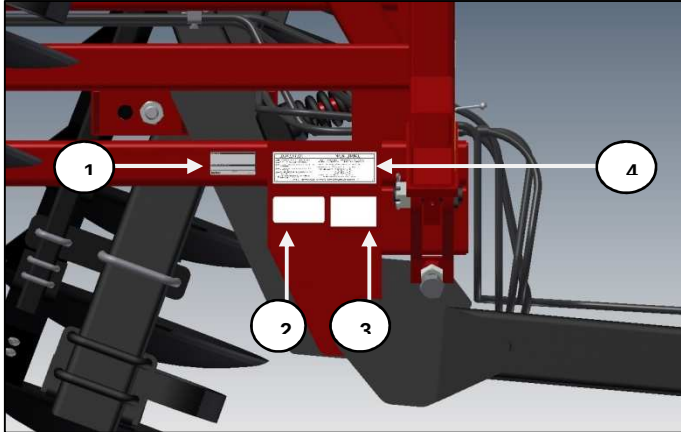

Figure 1 Main Frame (Front Right Side)
Put Buhler S/N decal (1), Warning operation decal (2), Important decal (3) and Maintenance decal (4) on right front side of the main frame of disc as shown in Figure 1.